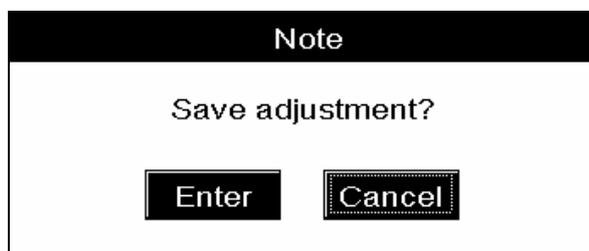

Figure7-50 The message box to ask you to save the changes
5. Press [ENTER] and a message box will pop up, as Figure7-50 shows.